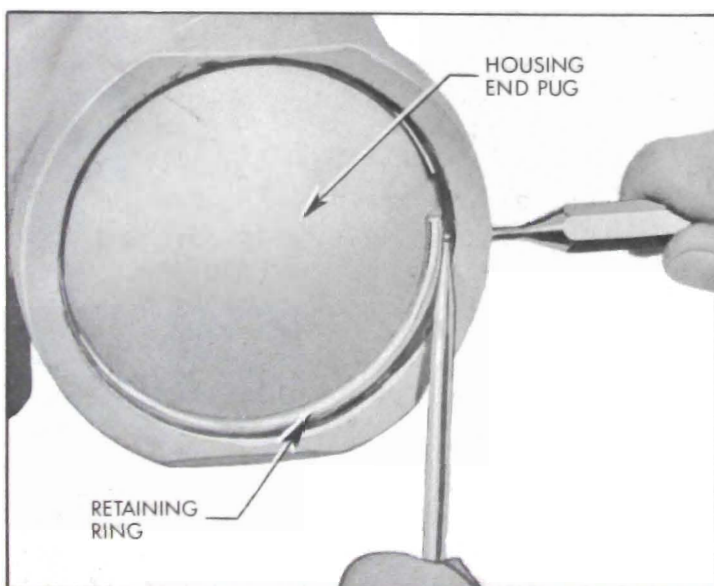

Figure 8-47—Removing Housing End Plug Retaining Ring
3. Rotate housing end plug retainer ring so that one end of ring is over hole in gear housing. Spring one end of ring with punch to allow screw driver to be inserted to lift ring out. See Figure 8-47.